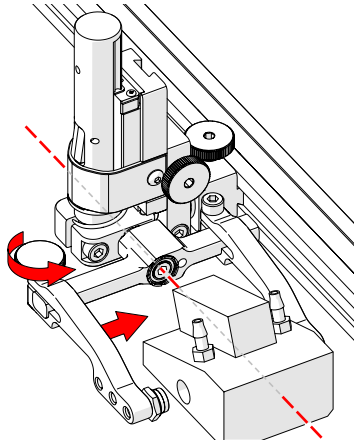

Fig. 116 - Adjust outer arm
5. Loosen the probe holder arm adjustment knob (Fig. 116) and slide the probe holder arm along the yoke pinching the wedge in place.